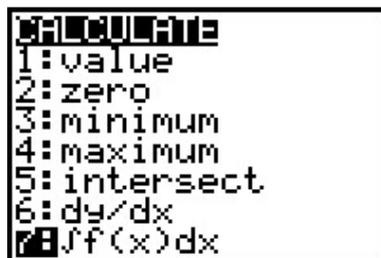

Fig.21
1. Choose integration from the **CALC** menu:[2nd][TRACE] 7:∫f(x)dx [ENTER] (Fig.21). Plot is now displayed.